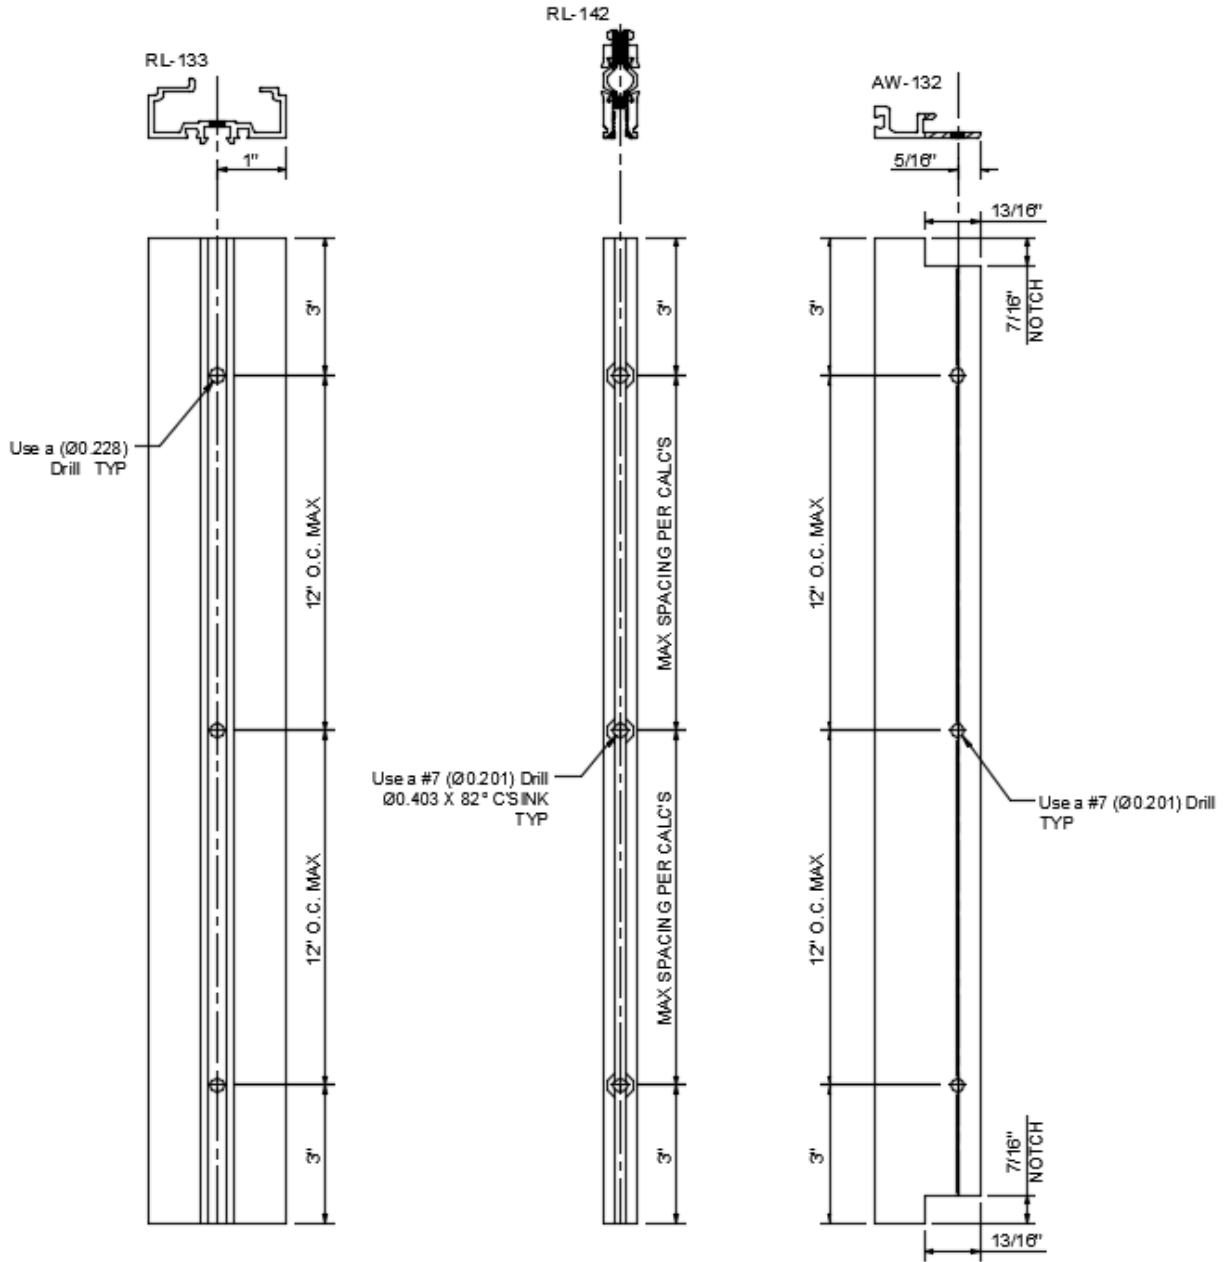
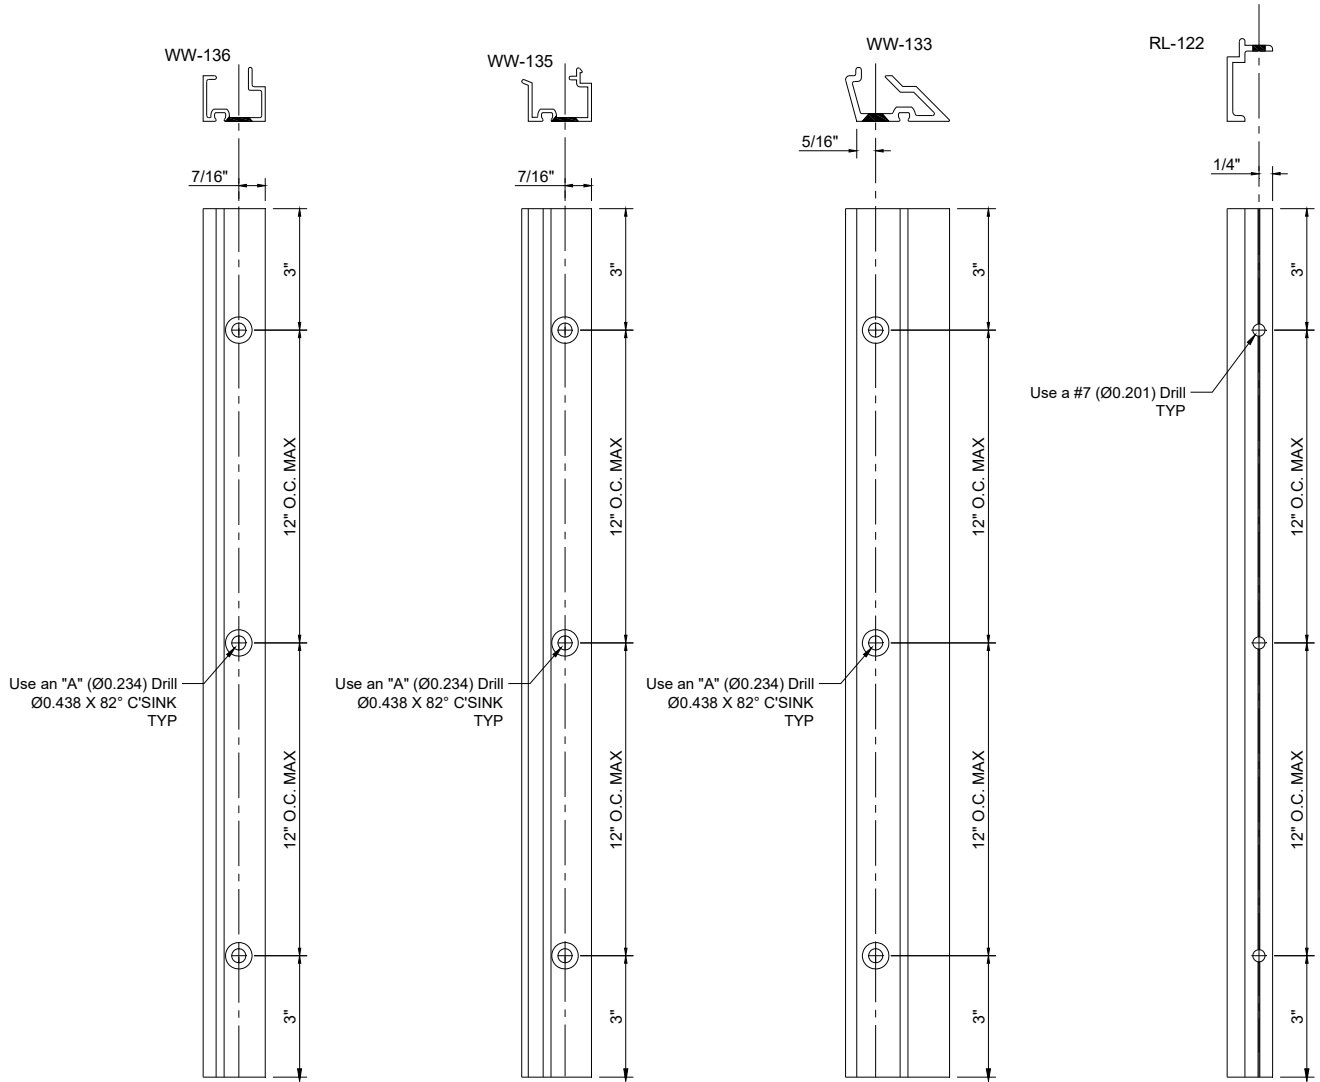

Figure 9: Vertical Accessory Fabrication
Figure 10: Vertical Accessory Fabrication
- 5.5 Fabricate vertical accessories, such as, glazing adaptors and pocket fillers as shown in *Figure 9* and *Figure 10*.